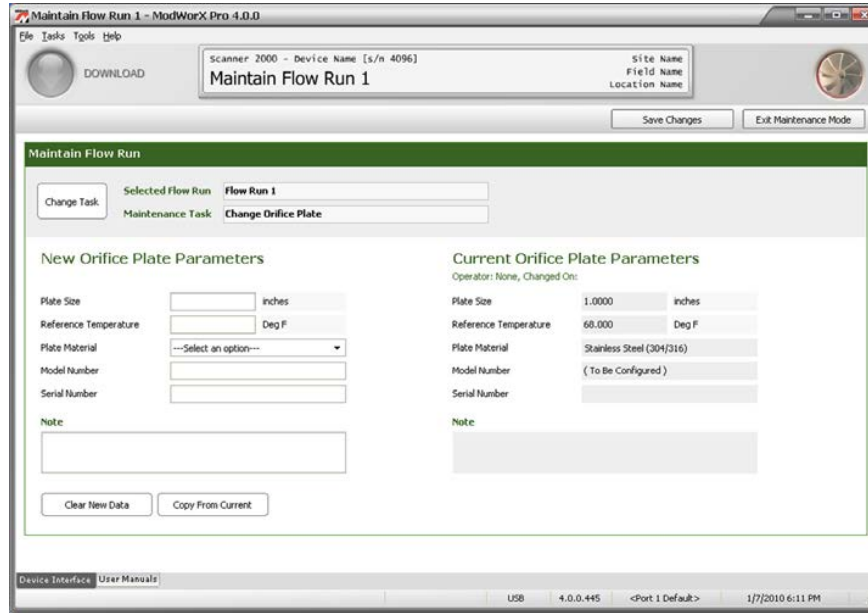

Figure 9.5
- b. Click **OK** to save your selections and return to the Maintain Flow Run screen (Figure 9.5, page 122).